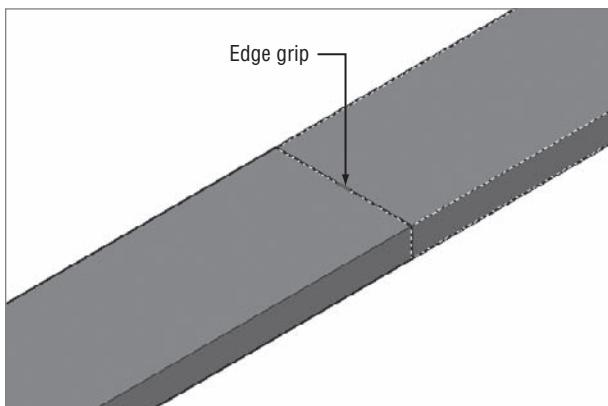

FIGURE 16.81 Exposing the edge grip
7. Zoom into the newly sliced area on the front wall. Hold the Ctrl key down and click the middle of the top edge. The small rectangular red edge grip appears as shown in Figure 16.81.